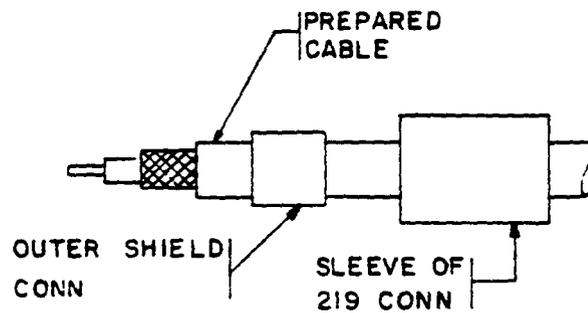

FIG 3 SLIDE OUTER SHIELD CONNECTOR AND SLEEVE OF 219 CONNECTOR OVER CABLE
- (c) Slide appropriate Special Sleeving KS-21886L-1, yellow, two inches long and outer shield connector (furnished with 219 connector) over cable. See Figure 3.